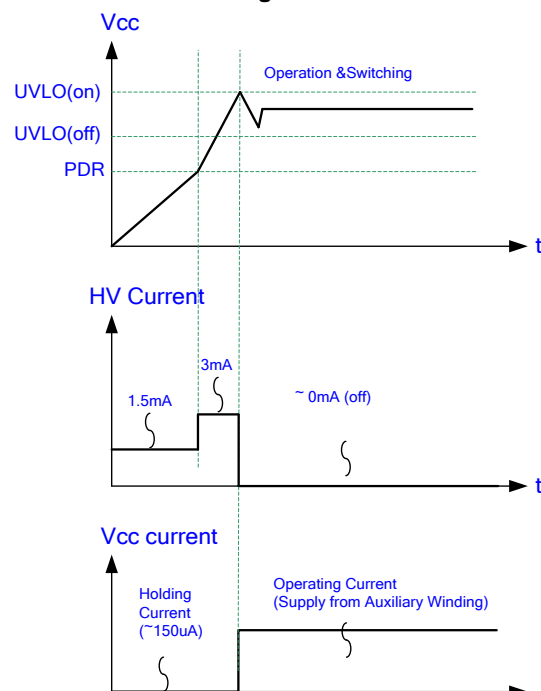

Fig 16.
Refer to Fig 16. If VCC is below PDR, the charge current is only 1.5mA and the lower charge current can protect IC if the VCC Pin is shorted to GND. Once VCC voltage rises up to reach the UVLO(ON) threshold, HV pin will no longer charge the capacitor and instead, send a gate drive signal to draw supply current for VCC from the auxiliary winding of the transformer. That minimizes the power loss on the start-up circuit successfully.
the power MOSFET. As shown in Fig 16, a hysteresis is provided to prevent THE LD7791 from shutdown by the voltage dip during startup. The turn-on and turn-off threshold level are set at 18V and 8V respectively.